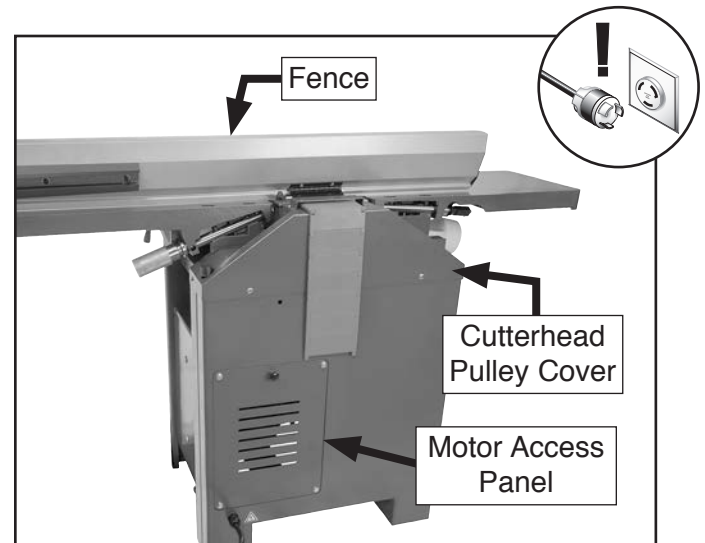

Figure 53. Location of fence, cutterhead pulley cover, and motor access panel.
2. Remove fence, cutterhead pulley cover, and motor access panel (see **Figure 53**).